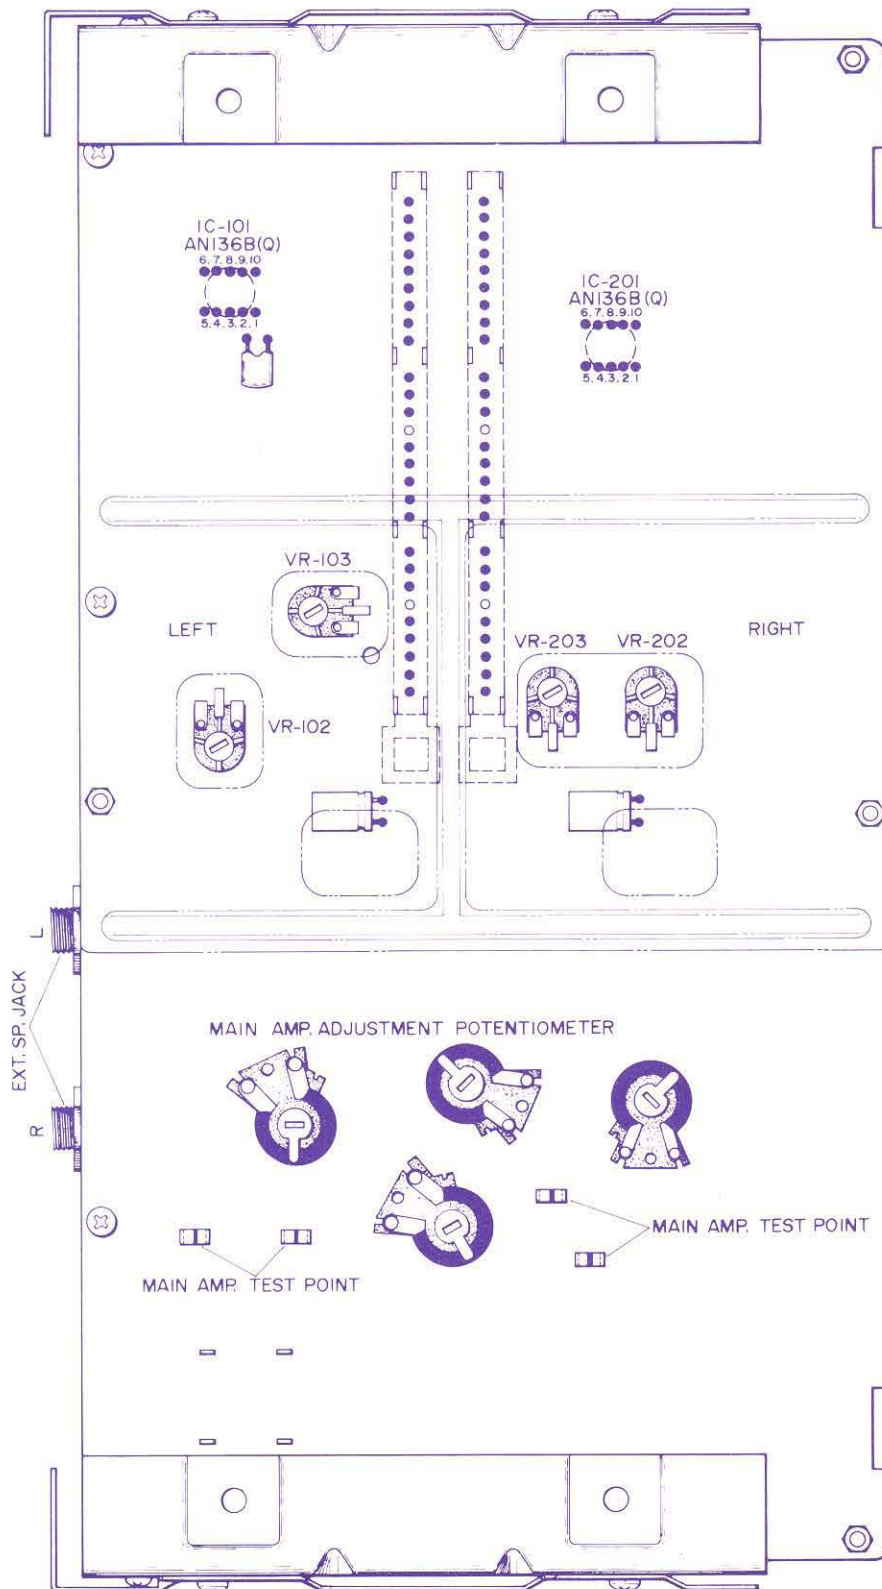
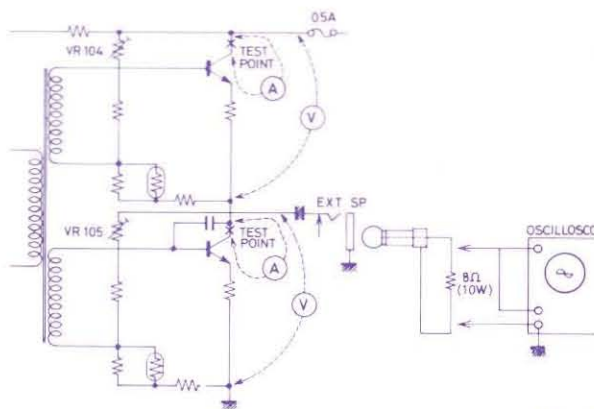

Fig. 2
Fig. 3
- b) After recording a 1 kHz "0" VU signal, play it back and adjust Potentiometers VR102 and VR202 (30 k Ω) so that the VU Meters indicate "0" VU (RECORDING LEVEL ADJUSTMENT—SEE FIG. 2).
- a) The test point of the Power Output Transistor (2SC931) Collector Circuit is located on the back of the Printed Board. Remove the solder from around the point and connect an Ammeter to the test point (FIG. 2 and FIG. 3).
As shown in Fig. 2, connect two Voltmeters and with no input power signal (Volume Controls at "0"), adjust Potentiometers VR105 (L), VR205 (R) (1 k Ω). With Collector Current at about 15 mA, obtain equal indications on the two Voltmeters.